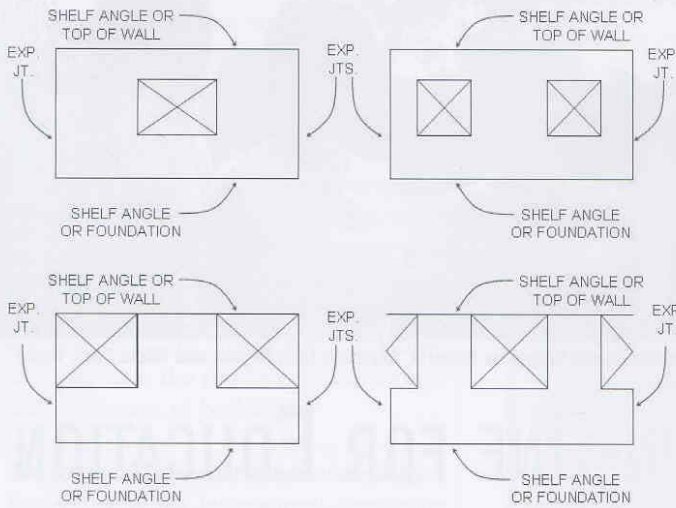

Figure 3. Symmetrical sections
- Divide the wall into symmetrical sections. The sections do not have to be rectangular, just the same on either side of the vertical centerline. Use expansion joints to create symmetrical sections of brickwork. If you cannot maintain symmetry, reduce the horizontal spacing of the expansion joints. See Figure 3.